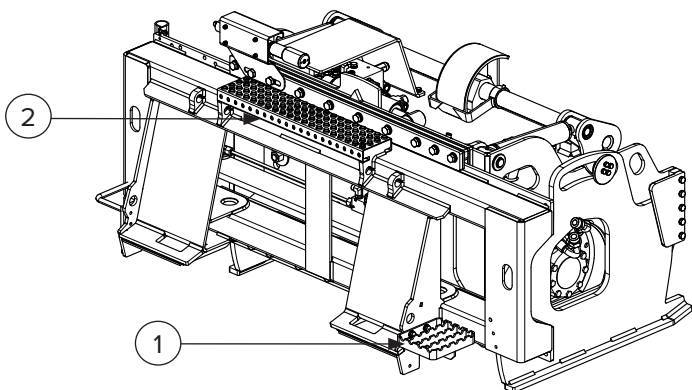

Figure 2
1. Rest the left foot on the lower step [Figure 2, Item 1] of the attachment.